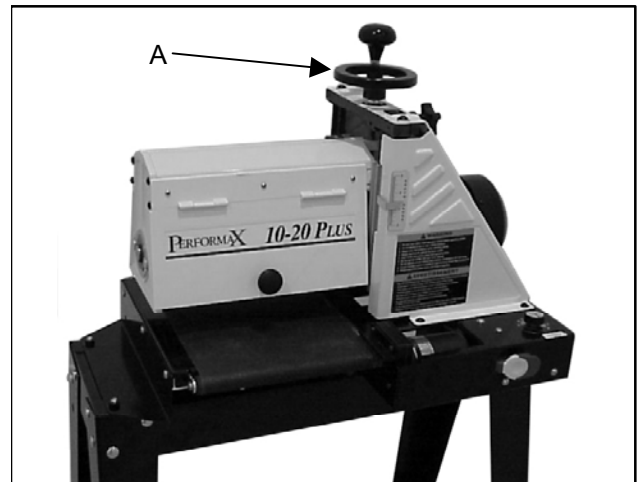

Figure 1
1. Attach the handwheel (Figure 1, Item A) to the height adjustment screw and tighten.